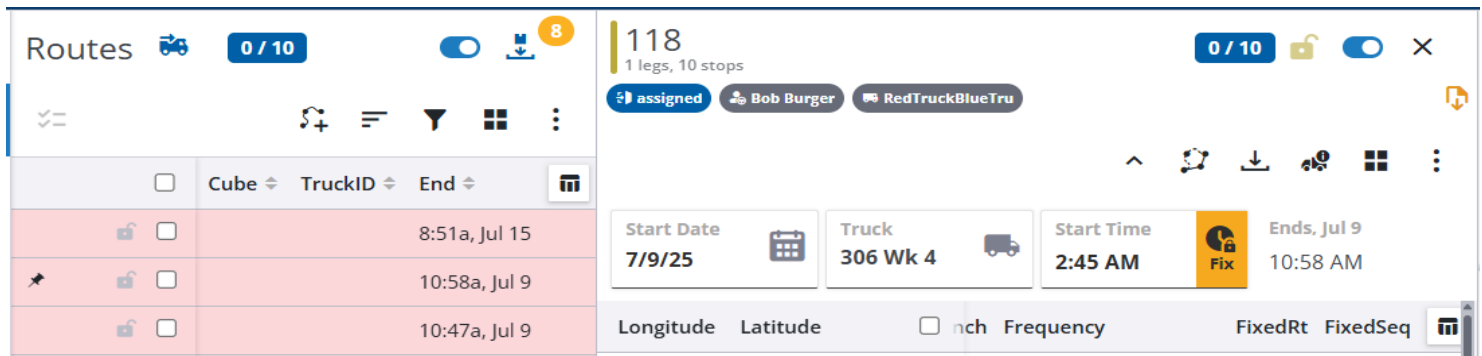

Figure 80 - Route and Stop grid view with Route 118 assigned
- The grid is a non-resizable two-pane window with all of the same functionality as the cards (See *Figure 80* below).
- Scroll right (bottom of list) and click on the Configuration button (top right of list) to configure columns, fields, or volumes (see *Figure 80* below). Configured data is retained between sessions.